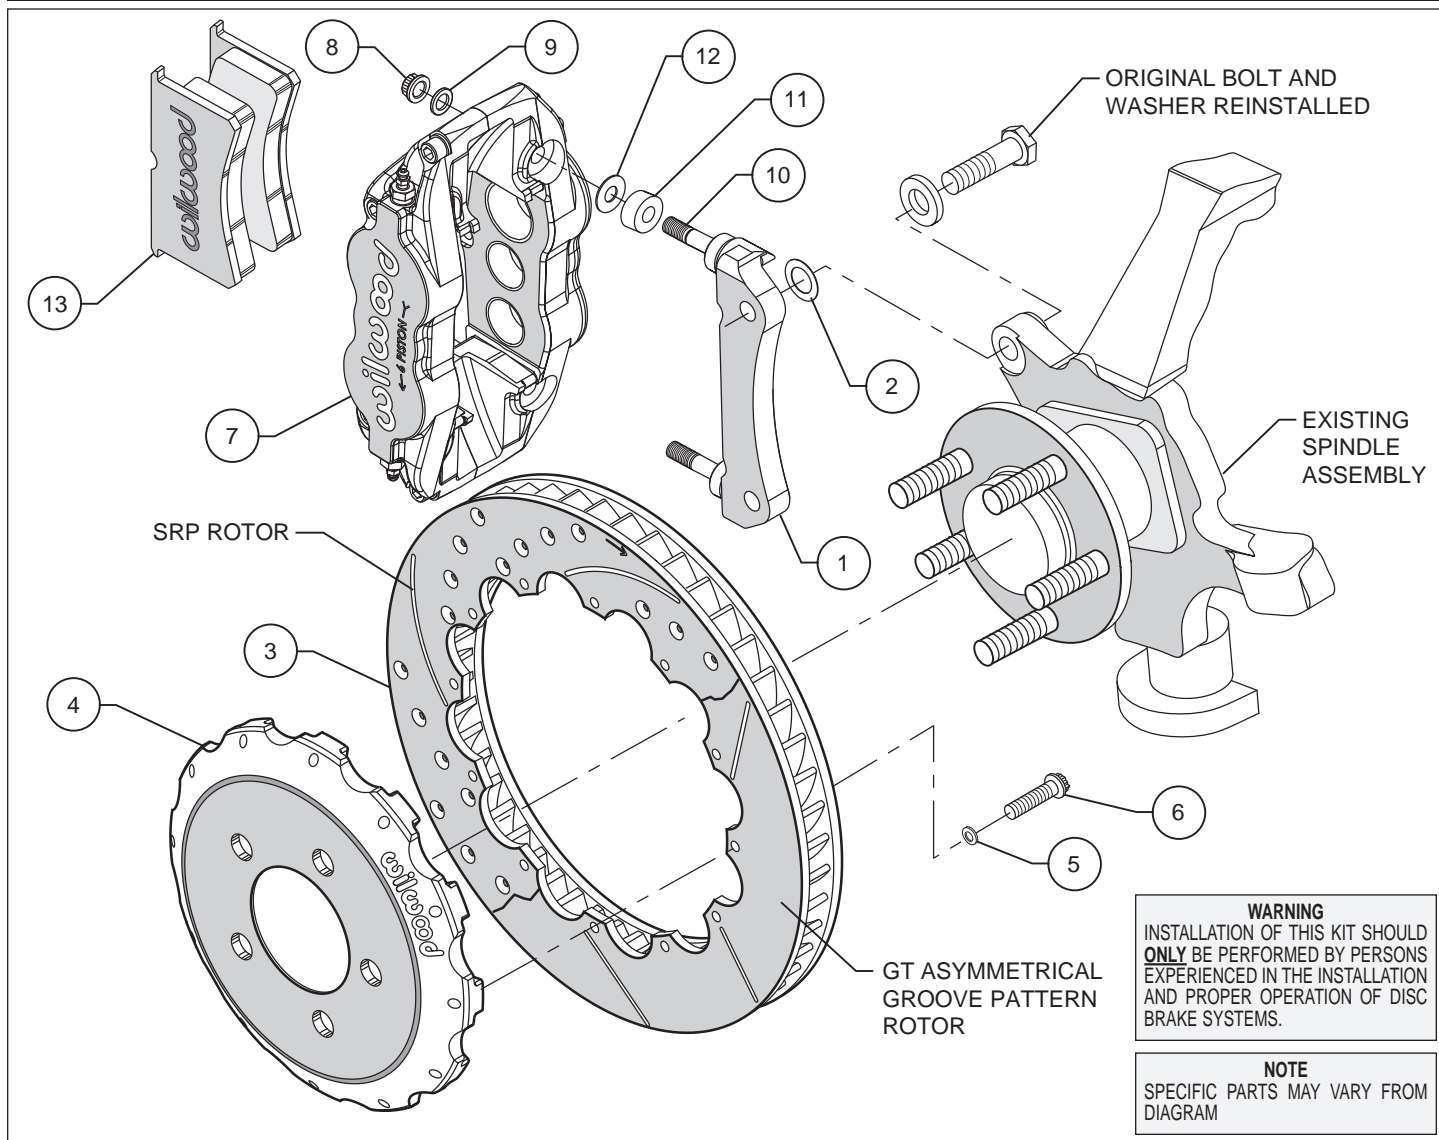
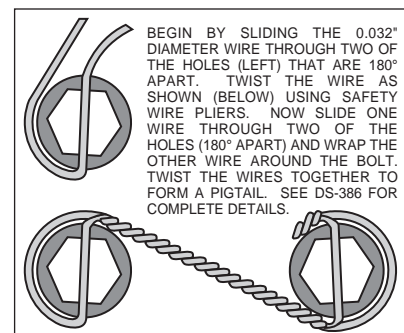

Figure 1. Typical Installation Configuration
Figure 3. Safety Wire Diagram
- Assemble the rotor (3) to the hat (4) with the bolts (6) and washers (5) as indicated in the configuration pictured in Figure 1. Using an alternating sequence, apply red *Loctite*® 271 to the threads and torque bolts to 155 in-lb. For an added measure of security, the bolts may be safety wired using standard 0.032 inch diameter stainless steel safety wire as shown in Figure 3. Please refer to Wilwood's data sheet DS-386 (available at www.wilwood.com/Pdf/DataSheets/ds386.pdf) for complete safety wire installation instructions.
- **NOTE:** This kit contains distinct right and left hand calipers that must be mounted in a specific direction, as described below. Lubricate the caliper mounting studs (10) with lightweight oil. Initially place one .035" thick shim (12) and spacer (11) on each stud as shown in Figure 1. Mount the caliper (7) onto the bracket (1) using lock nuts (8) and washers (9), Figure 1. Ensure that the caliper is mounted so that the largest pistons are at the rotor exit end of the caliper, in relation to the direction of rotor rotation. Temporarily tighten the lock nuts and view the rotor through the top opening of the caliper. The rotor should be centered in the caliper. If not, adjust by adding or subtracting shims (2) between the bracket and the upright. Always use the same amount of shims on each of the two mounting bolts. Once the caliper alignment is correct, remove the bracket mounting bolts one at a time, apply red *Loctite*® 271 to the threads, and torque to manufacturer's specifications.
- Remove the caliper center bridge pad retainer bolt, nut, and tube from the caliper. Slide the brake pads (13) into place. They should install easily without interference. Check that the outside radius of the brake pad is aligned with the outside diameter radius of the rotor face. Add or subtract .035 shims (12) between the caliper and mount bracket to gain the proper alignment. Reinstall the center bridge pad retainer tube, bolt, and lock nut. The locknut should be snug without play in the bolt or tube. Be cautious not to over tighten.
- Once all clearances have been checked, remove the wheel, caliper, hat, and rotor from the spindle and hub. Secure the caliper mounting bracket (1) to the spindle using red *Loctite*® 271. Torque the bolts to 65 ft-lbs. Reinstall the hat and rotor assembly and again use several lug nuts to hold it in place. Lubricate caliper mounting studs and nuts with lightweight oil, reinstall the caliper, torque the caliper nuts (8) to 28 ft-lbs.